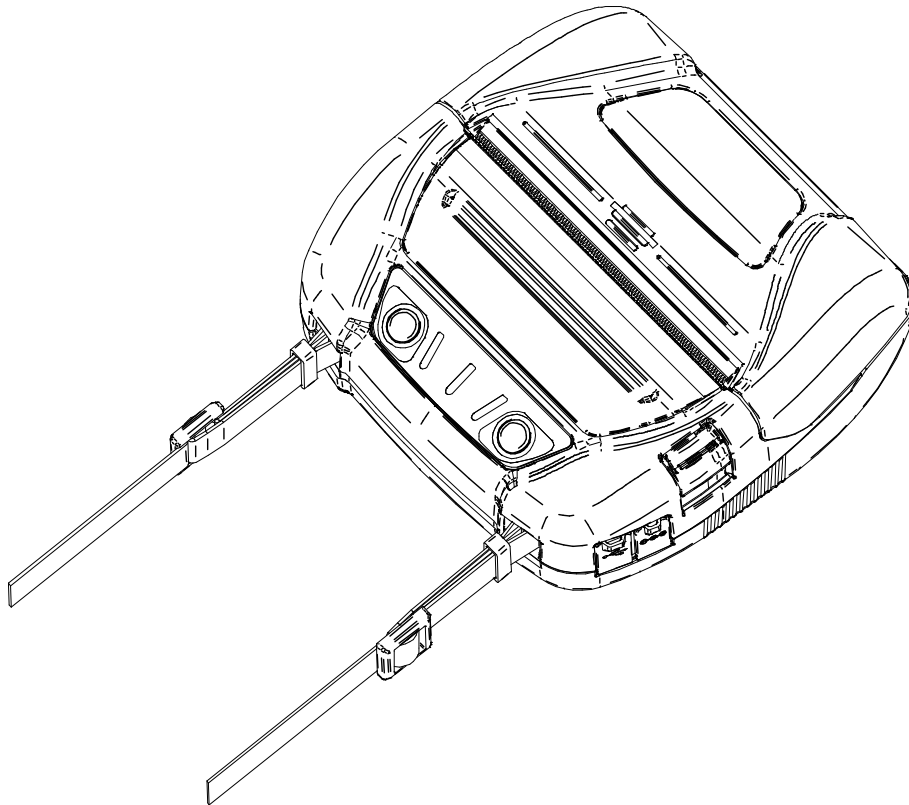

Figure 14-8 Shoulder Strap Installation (5)
- (5) As shown in Figure 14-8, install the other shoulder strap by the same procedure described (1) to (4). Tighten the looseness of adjuster part and adjust the length of the shoulder strap.